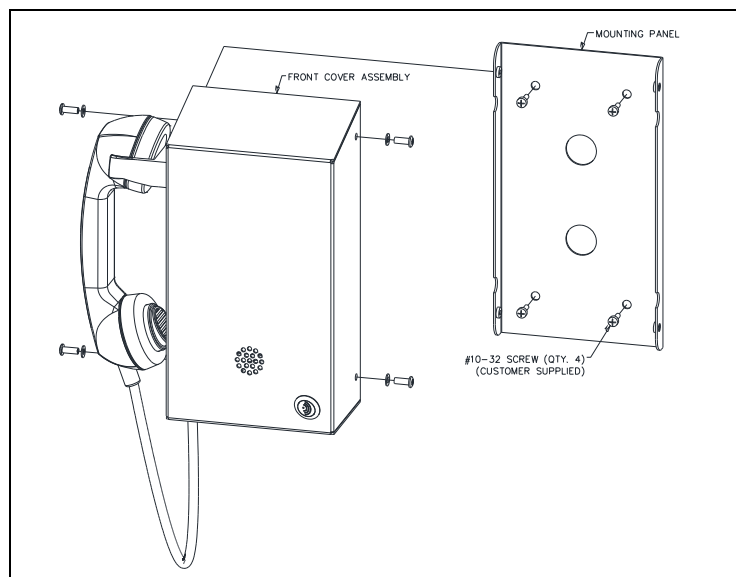

Figure 4. Models 210-712/-712BH/-712BHAC Front Cover Removal
1. Use a GAI-Tronics No. 233-001 Security Screwdriver to remove the four tamper-resistant cover-panel screws (see Figure 4).